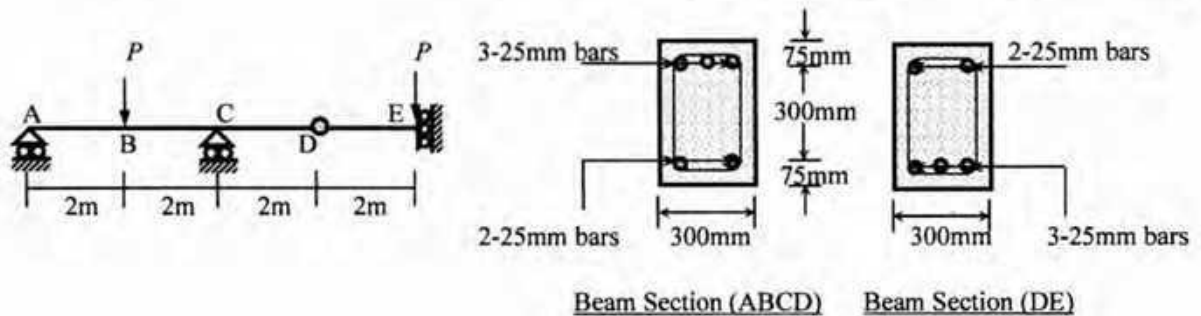

Fig. 5
8. Use the bending moment diagram to calculate forces  $P$  needed to develop plastic hinge mechanism in the reinforced concrete beam ABCDE loaded as shown in Fig. 5 [Given:  $f'_c = 20 \text{ MPa}$ ,  $f_y = 276 \text{ MPa}$ ].